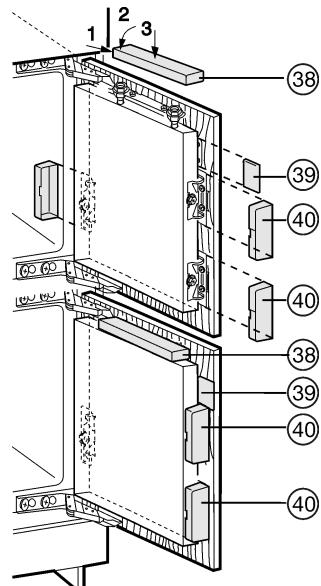

Fig. 27
- Position the upper covers Fig. 27 (38) and snap into place.
- Place the side covers Fig. 27 (39) in position, slide to the limit and then press until they snap audibly into place.
- Attach the covers Fig. 27 (40) to the side and then draw them forward with a screwdriver, so that they snap properly into place.